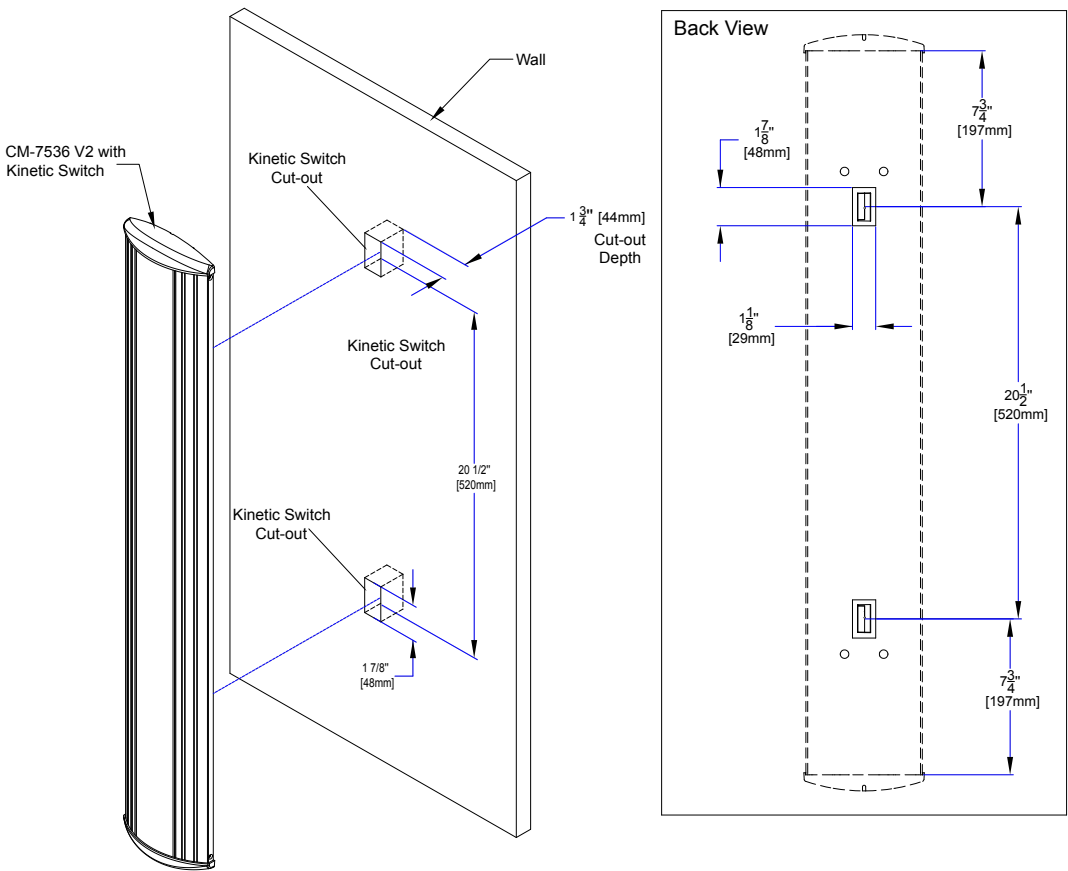

Figure 4.5 Kinetic Wall Mounting
c. If using Kinetic RF: The CM-7436K uses 2 Kinetic RF switches installed near the top and the bottom of the actuator. When pairing this switch with a Kinetic receiver, you must pair both the top and the bottom switches. The pairing of Camden Kinetic transmitters is detailed in the CM-RX90v2 installation manual. (Figure 4.5)